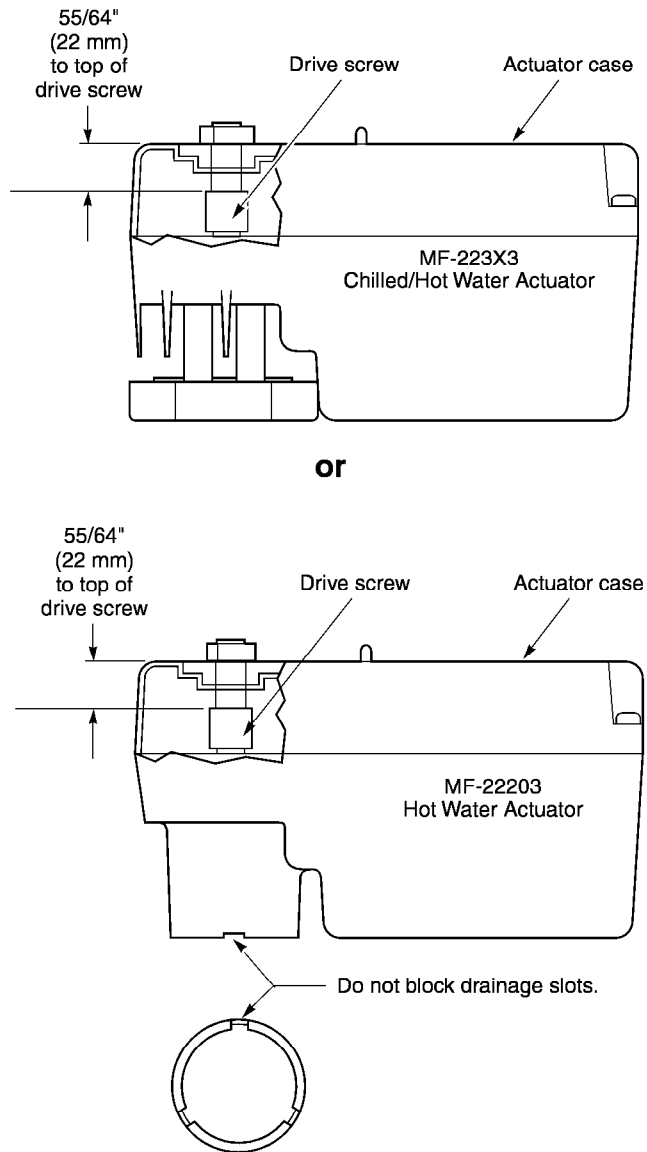

Figure-10 Proper Drive Screw Position Before Mounting.
- Do not block the drainage slots on the threaded portion of the actuator base. Refer to Figure-10.
5. Confirm that the drive screw for the actuator model being mounted is the required distance from the top of the actuator case. See Figure-10. If the drive screw is not in position, insert a tapered pencil or pen into the drive screw and rotate.